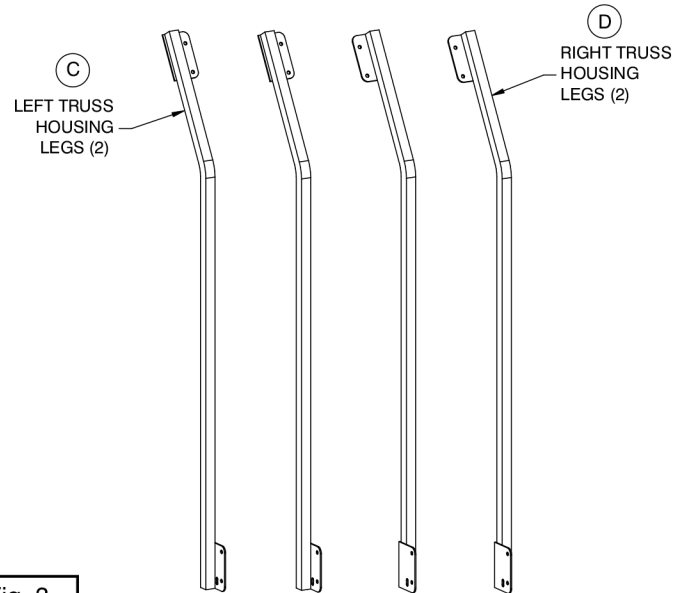

Fig. 3
Unpack the components of the Truss Leg Kit carton and check the contents against those listed in Fig. 3. If you are missing any of the parts listed, contact BPG for replacement parts before starting installation.
The left and right housing legs (C & D) in the truss kit have mounting flanges that are used to bolt the legs to the standard Versa Lift housing and mounting rails (Figs. 3 & 4).
Shorter hex bolts (A) are supplied in this kit, since the leg mounting bolts only go through the housing leg flanges and not through the legs themselves (Figs. 3 & 4).
In addition, longer screws (B) are supplied to mount the guide spacers because of the extra thickness of the leg flanges (Figs. 3 & 4).